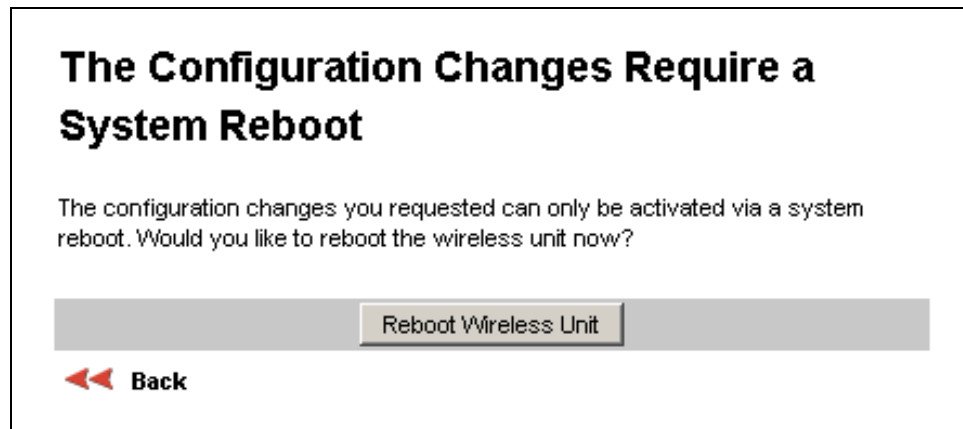

Figure 96 - Configuration Reboot Screen
6. Reboot both ends of the link Figure 96. The software is designed to allow five seconds so that a user can command both ends of the link to reboot before the wireless link drops.